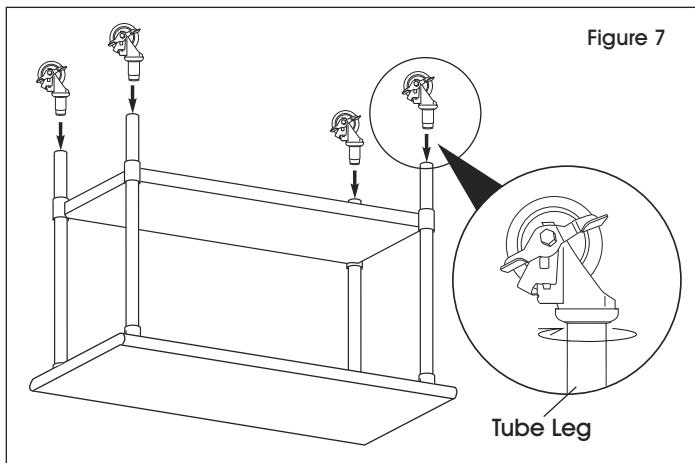

Figure 7
4. With caster fully inserted into the leg, turn clockwise until caster is secured to tube leg. (See Figure 7)